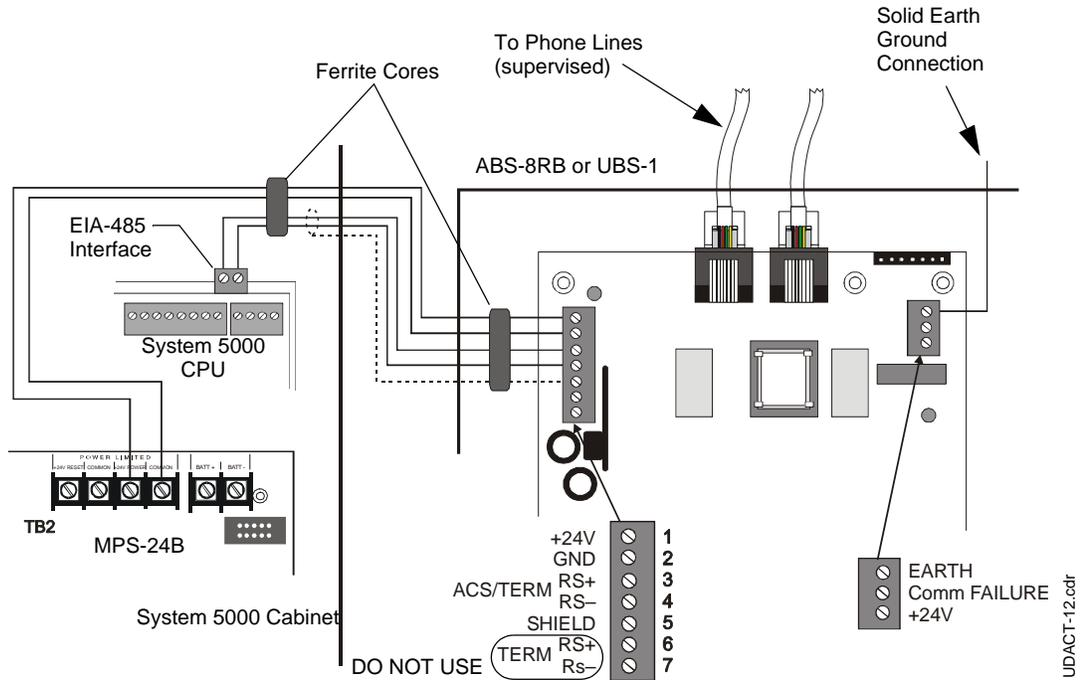
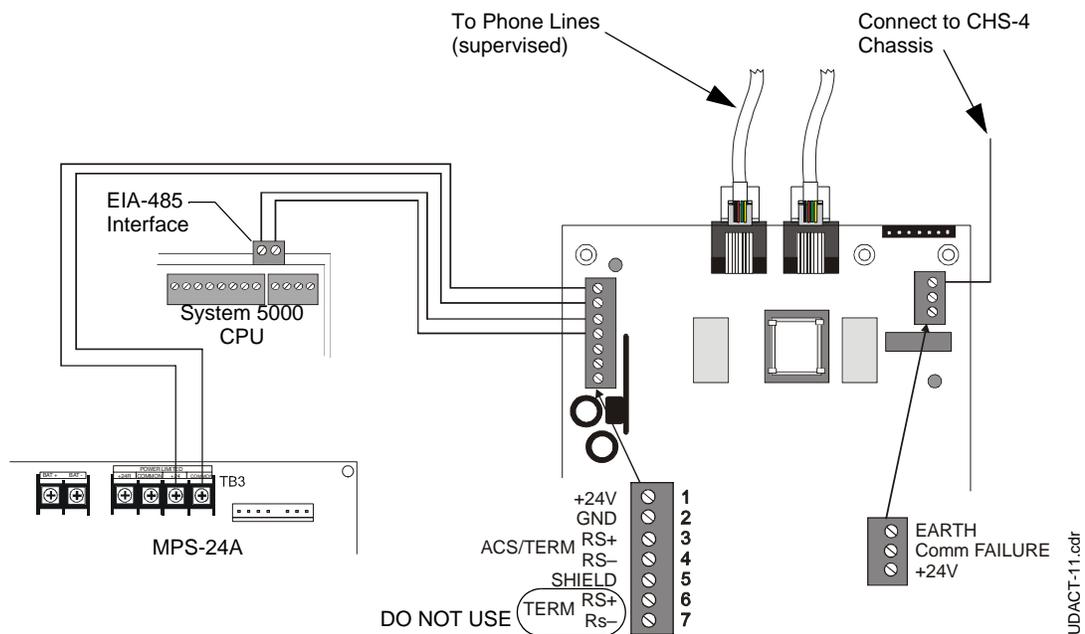

Figure D.1 UDACT and System 5000 with MPS-24B
Figure D.2 UDACT and System 5000 with MPS-24A
Refer to Figure D.2 and Figure D.1 on page 76.
2. Recommended wire is 12 AWG (3.25mm²) to 18 AWG (0.75mm²), twisted pair, shielded cable. Connect only one end of shield: a) shield may be connected to cabinet (earth ground) at fire alarm panel, or b) shield may be connected to TB1 Terminal 5 (Shield) at UDACT as shown in Figure D.2.